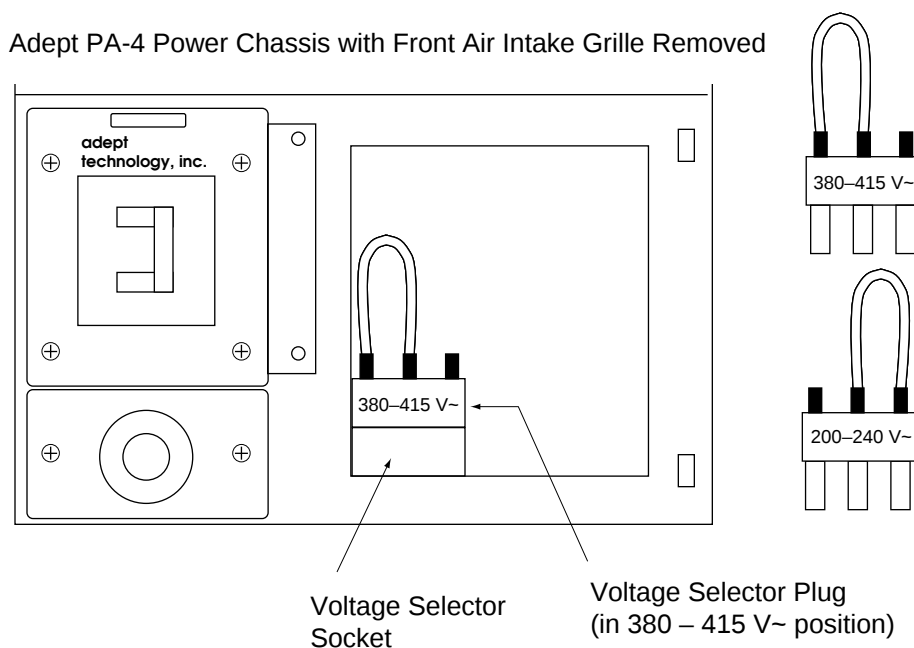

Figure 2-22. Changing Voltage in Power Chassis
3. Inspect the voltage setting; it is marked on the front of the voltage selector plug. To change the voltage setting, remove the selector, rotate it 180° so the required setting is shown, and replace it. See Figure 2-22.